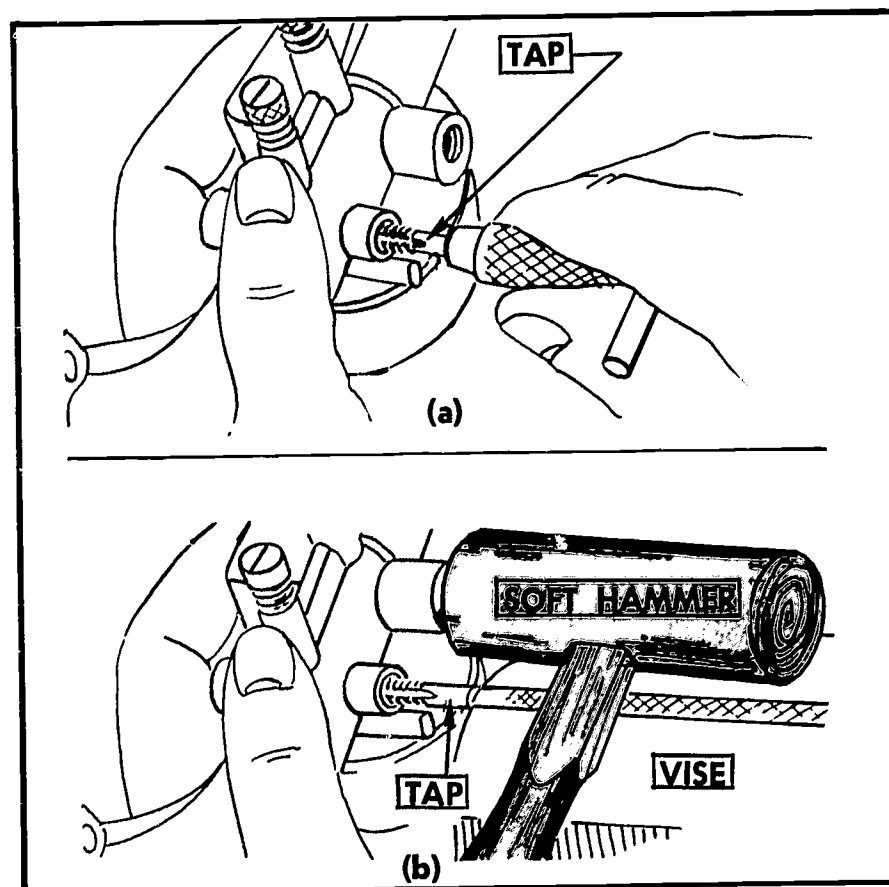

FIGURE 149. Removing the carburetor throttle-shaft bushing. (a) Inserting a tap in the bushing. (b) Driving the carburetor from the bushing.
10. *Remove and replace throttle-shaft bushing if necessary (Figure 149).*